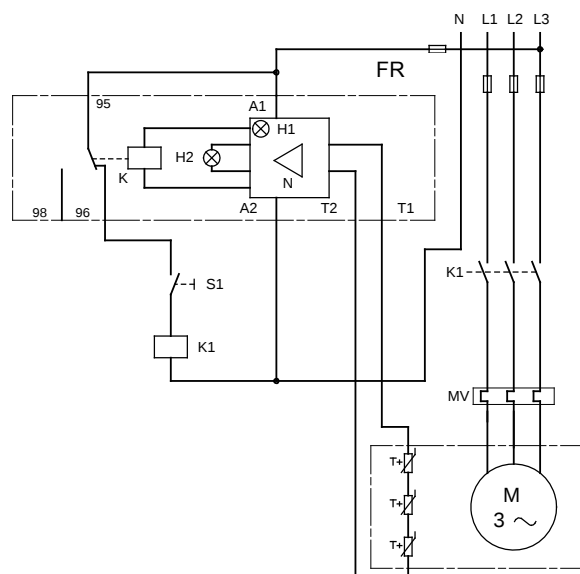

Fig. 9 Wiring diagram
The electrical connection must be carried out by an authorised electrician in accordance with local regulations and the diagrams for the motor protection, starter and monitoring devices used. See fig. 9. The electrical connections are made in the terminal box.
The motor must be connected to an effective motor starter (MV) and an external amplifier relay (FR). See fig. 9. This protects the motor against damage from voltage drop, phase failure, quick and slow overloading and a locked rotor.
Before starting up the system, the thermistors must be connected to terminals T1 and T2 on the terminal block. See fig. 9. The thermistors protect the motor windings against thermal overload.